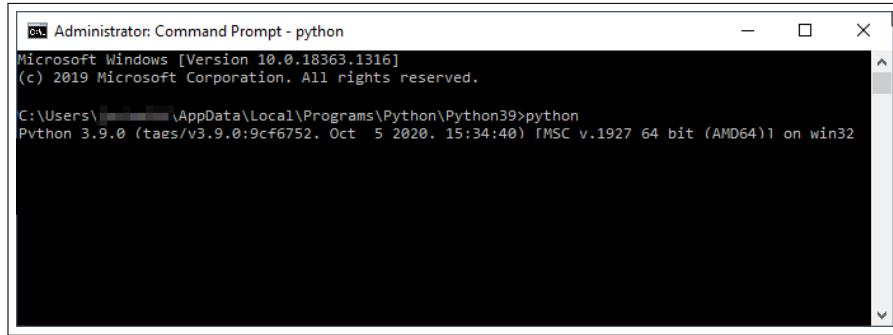

Figure 9.8: Command Prompt window with open Python interpreter
- After the procedure has being done, open Command Prompt again and write "python". If no mistake has been done python will be recognised and opened (see Figure 9.8)